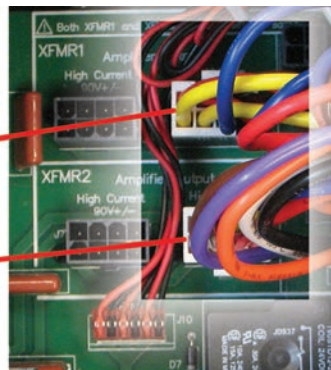

Figure 5.7 – J4 and J8 Plug Locations for High-Voltage Output
3. For High Voltage (180V) Output (see **Figure 5.7**).